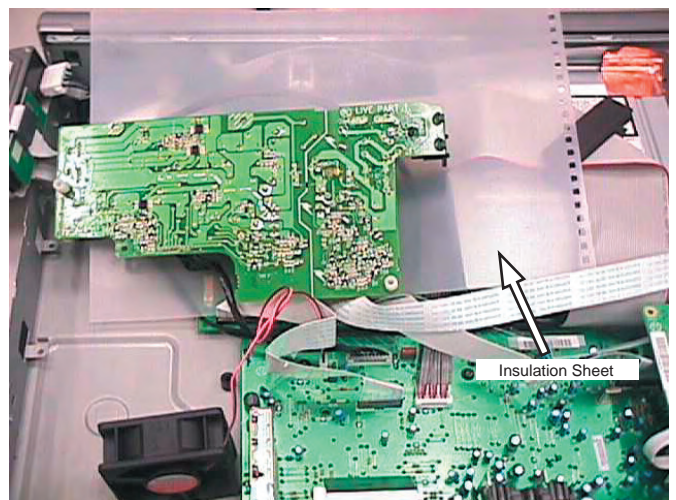

Figure 4-10: PSU Board Service Position
- 2) Service position for the PSU Board as shown in figure 4-10.